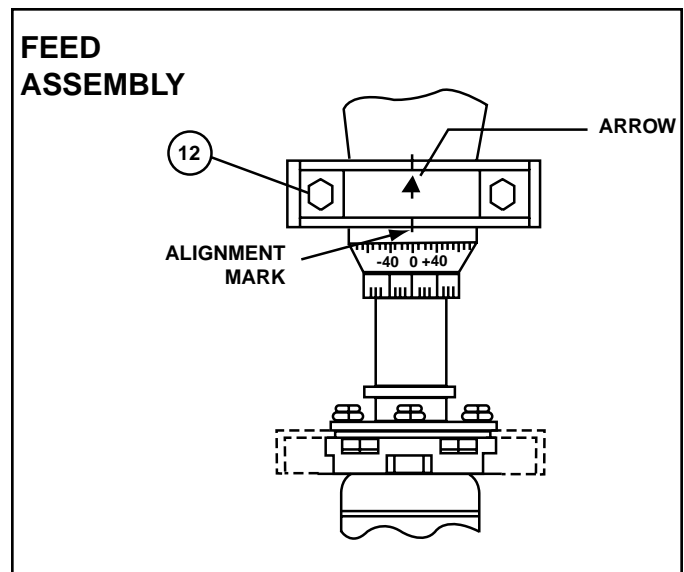

FIG. 3.0 - POLARIZATION OF THE FEED
Loosen feed horn M6 clamp bolts (12) and turn feed clockwise or counterclockwise, depending on being east or west of the satellite as shown on Chart 1. Align marks on the horn clamp and appropriate mark on the horn scale clamp is installed with arrow pointed toward antenna as shown in Fig. 3.0. Keep cable groove on header in the down position when adjusting polarization. **NOTE: Single Polarity Feed is factory assembled for vertical polarity. If horizontal polarity is desired, rotate feed 90° (clockwise or counterclockwise).**